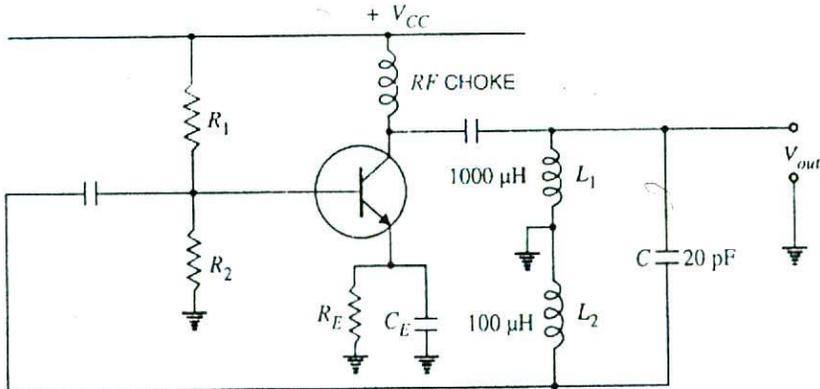

Fig. 16.15
**Example 16.3.** Calculate the (i) operating frequency and (ii) feedback fraction for Hartley oscillator shown in Fig. 16.15. The mutual inductance between the coils,  $M = 20 \mu\text{H}$ .